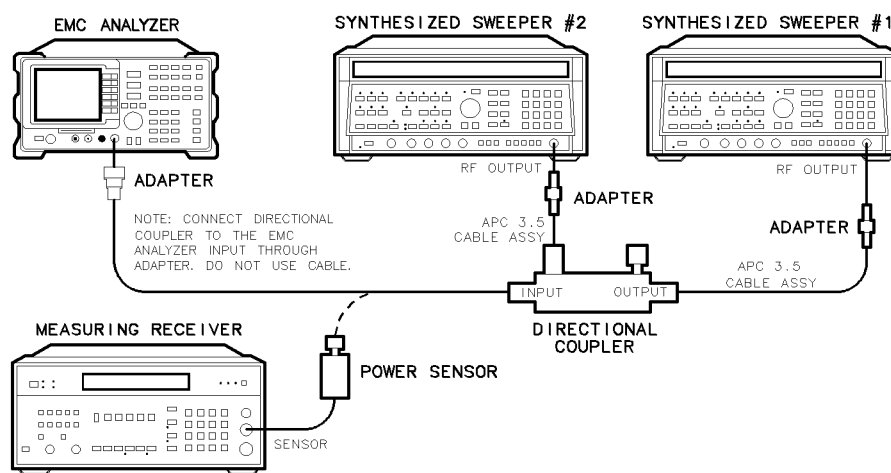

Figure 2-58. Gain Compression Test Setup, HP 8594EM
2. Connect the equipment as shown in Figure 2-58, with the output of the directional coupler connected to the power sensor.
15. Remove the EMC analyzer from the directional coupler and reconnect the measuring receiver power sensor to the directional coupler as shown in Figure 2-58.